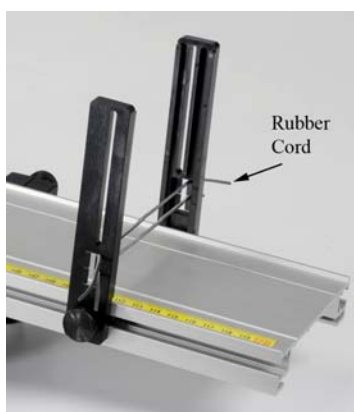

Figure 2: Elastic Bumper
11. Install the Elastic Bumper at the bottom of the track. The Rubber Cord should be placed so that the cart pushes the cord into the slots, as shown in Figure 2. For safety, it is a good idea to use more than one piece of cord.